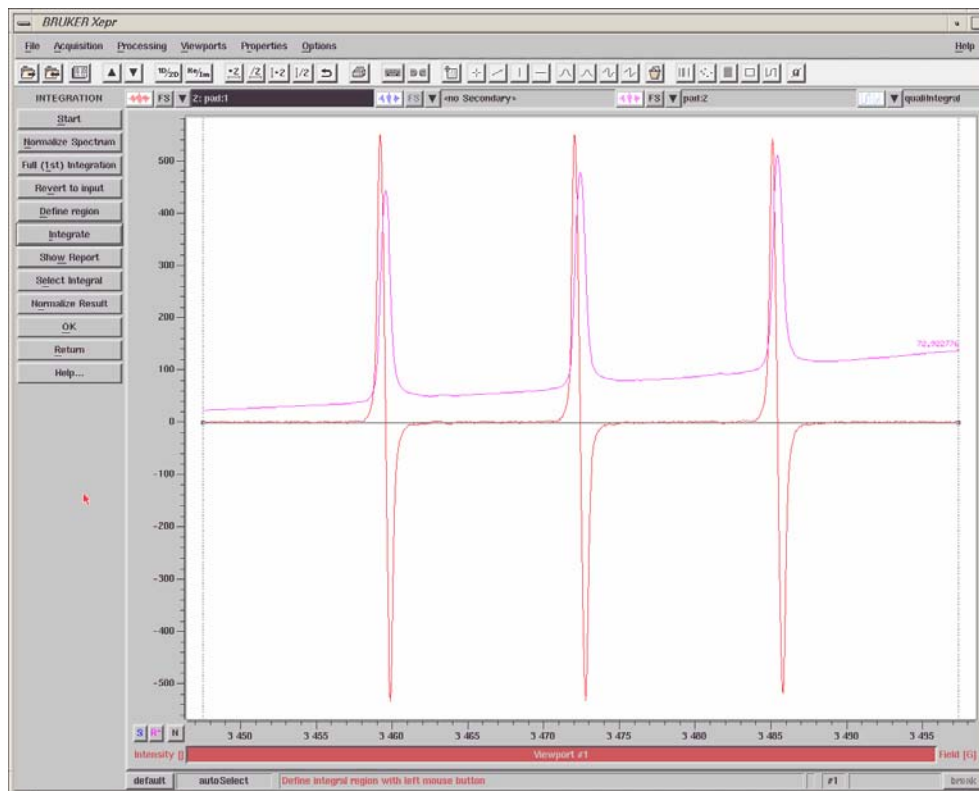

Figure 6-39 The first integral of the selected region.
5. **Integrate the spectrum.** Click **Integral**. The region of the spectrum you selected will be integrated once and displayed in the **Result** dataset. (See Figure 6-39.)